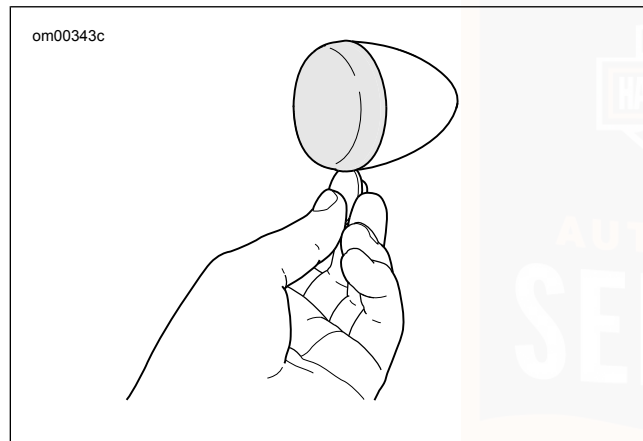

Figure 101. Remove Lens
1. See Figure 101. Insert coin in notch. Carefully twist until the lens cap pops out of the lamp housing.